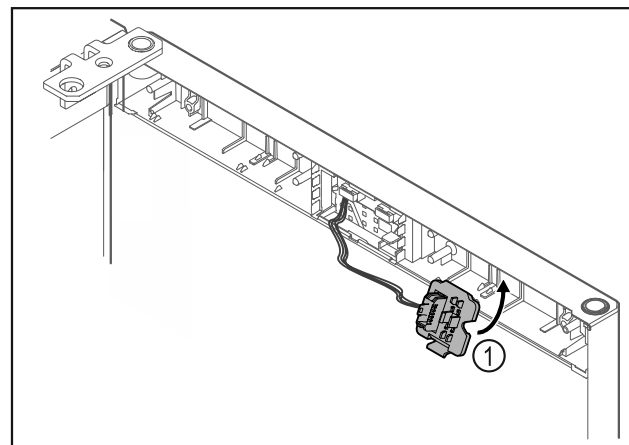

Fig. 13
- Engage the plug holder Fig. 13 (1) on the opposite side.\*